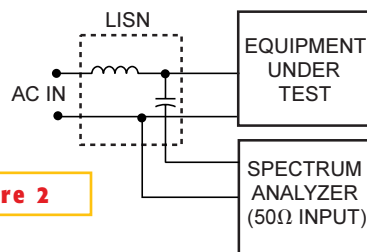

Figure 2
You measure conducted emissions on the power lines with a line-impedance stabilization network (LISN), a special network that isolates the power lines and ensures test repeatability. The LISN also connects to a spectrum analyzer or EMI receiver. You measure emission levels in microvolts, from 150 kHz (EU) or 450 kHz (FCC) to 30 MHz (**Figure 2**).